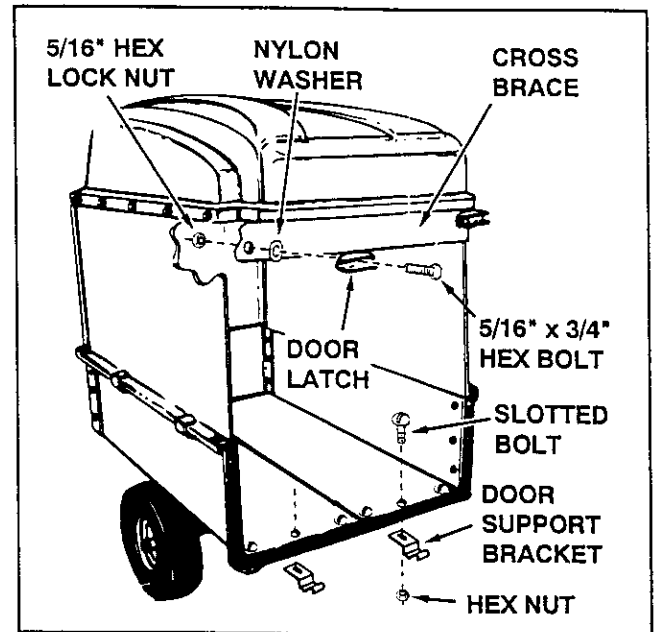

FIGURE 18
- Assemble a door latch at each end of the cross brace using a 5/16" x 3/4" hex bolt, a nylon washer and a 5/16" hex lock nut. Place nylon washer between door latch and cross brace. Tighten so that latch is snug but will still rotate. See figure 18.
- Assemble door support brackets underneath the rear of the cart bed by removing the hex nuts from the bolts shown in figure 18. Fasten the brackets to the cart using the same hex nuts which were removed.